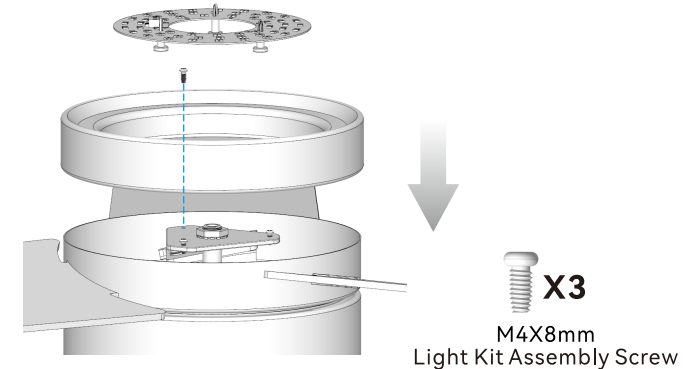

Fig. 3.1
3.2 Allow the wire plug to pass through the light kit. Reinstall the light kit. The light kit will be magnetically attracted to the pan with the help of magnets, as shown in Fig.3.1.